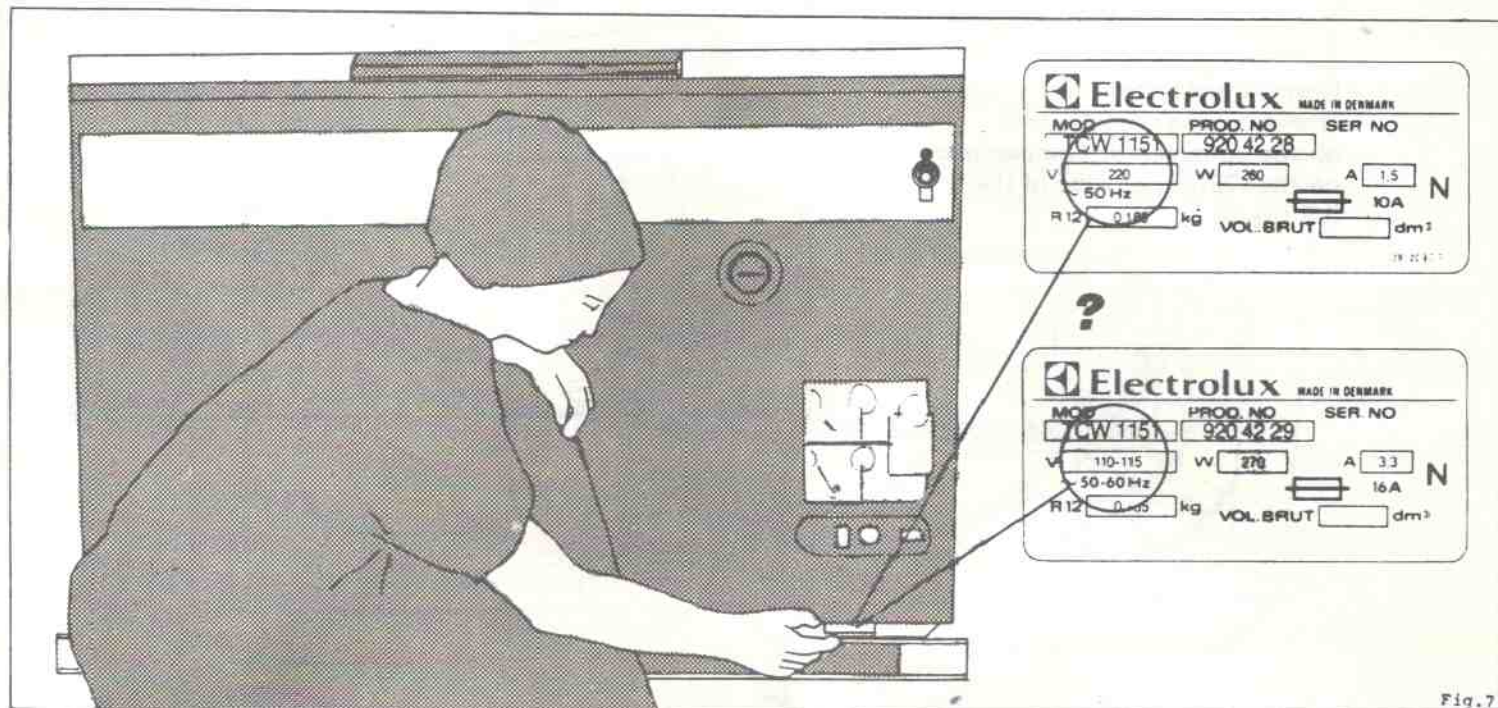

Fig. 7
9. Check the manufacturer's plate, at the front right bottom of the ILR and confirm that the ILR has correct voltage for local supply, i.e. 220 volts (fig. 7).